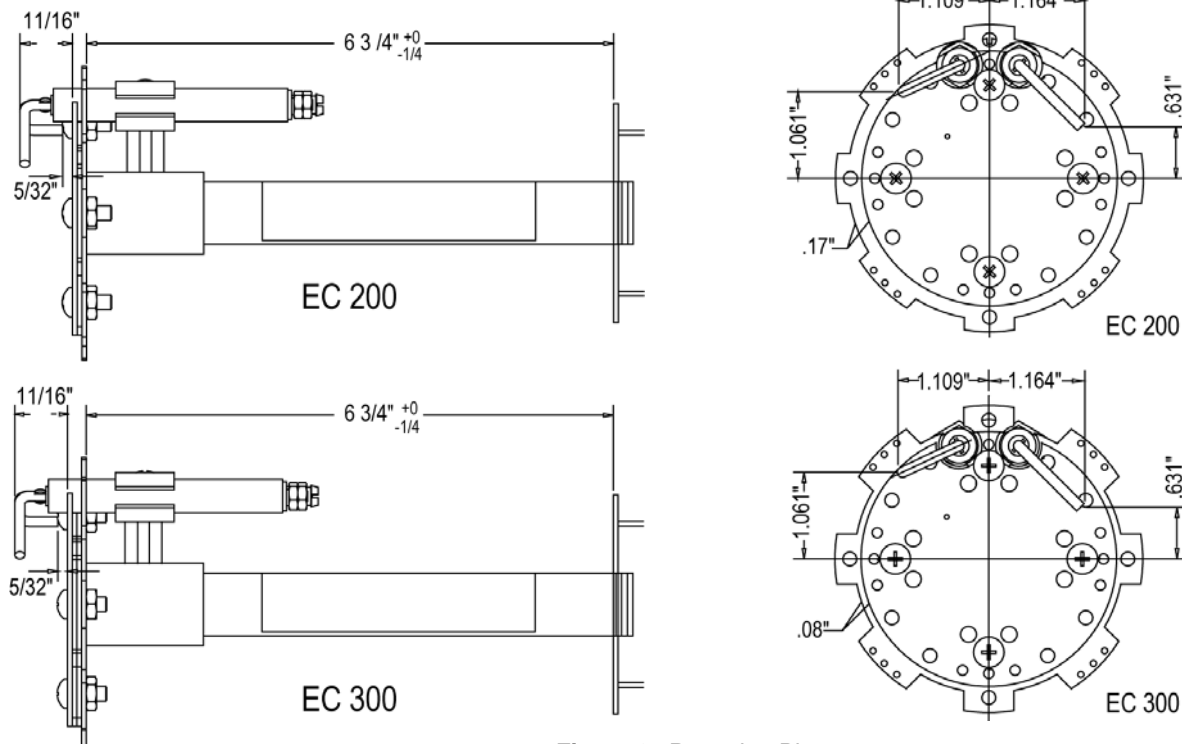

Figure 8: Retention Plates
□ Service will normally consist of inspection and cleaning. Check the electrodes for deterioration and the insulators for cracks. The electrodes are adjustable. If defective replace. Be sure to replace the rubber boot over the spark electrode and treat electrode leads with care. Due to high voltage any damage to the insulation is a potential leak path. When a new electrode is installed, be sure to set the spark gap and flame sensor dimensions, as shown in Figure 8.